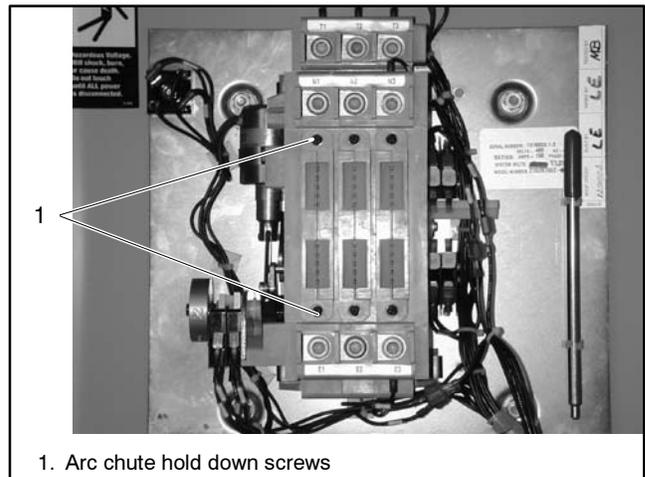

Figure 5-7 Arc Chute Screws
5. Remove the arc chute hold down screws. See Figure 5-7.